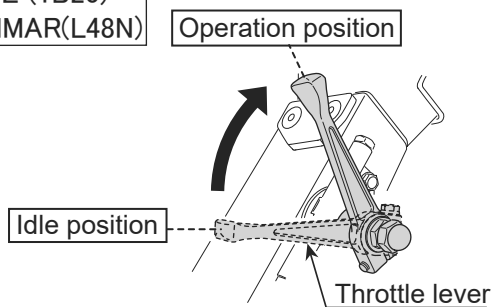

Fig.21
- 1 If the throttle lever is opened suddenly, the machine starts to operate. When you operate the throttle lever slowly, it may cause failure of the clutch causing the bad connection. (Fig.21)